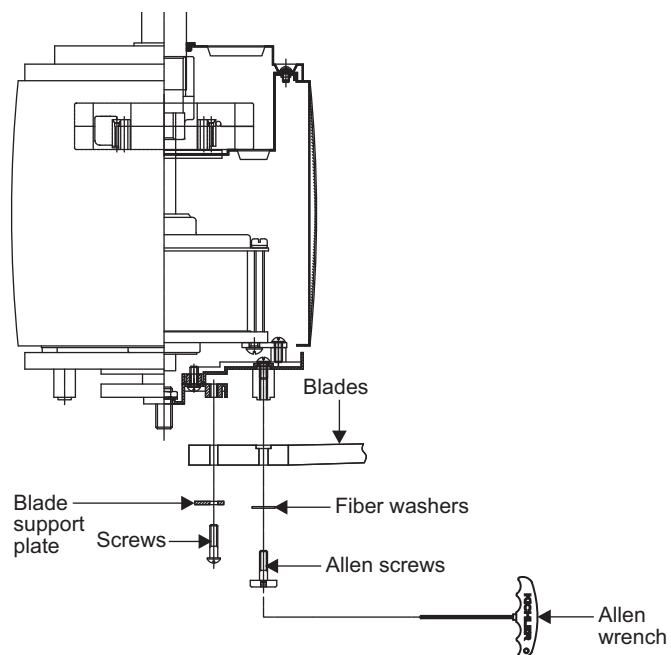

Fig. 15
Step 1. Attach the blade to the blade bracket using the screws, blade support plates, Allen screws, and fiber washers provided. To tighten the Allen screw by using the Allen wrench provided. (Fig. 15)